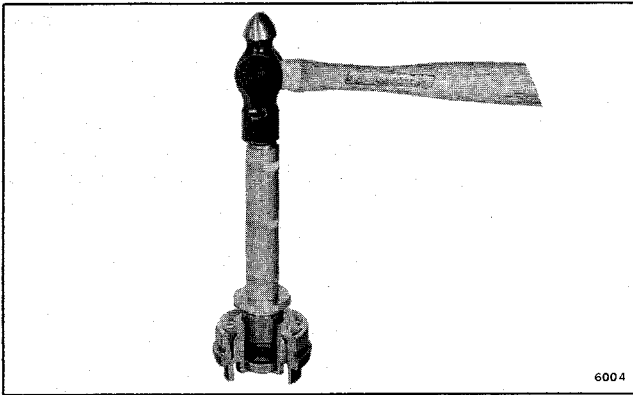

Figure 6-30. Installing Bearing in Gearcase Head
c. If bearing has been removed, install new bearing and seal in gearcase head, using Special Tools #308119, #378737 and #308104. See Figure 6-30. Press against hardened (lettered) side of bearing only. Bearing should be flush with inner surface, and seal should be flush with outer surface of head.